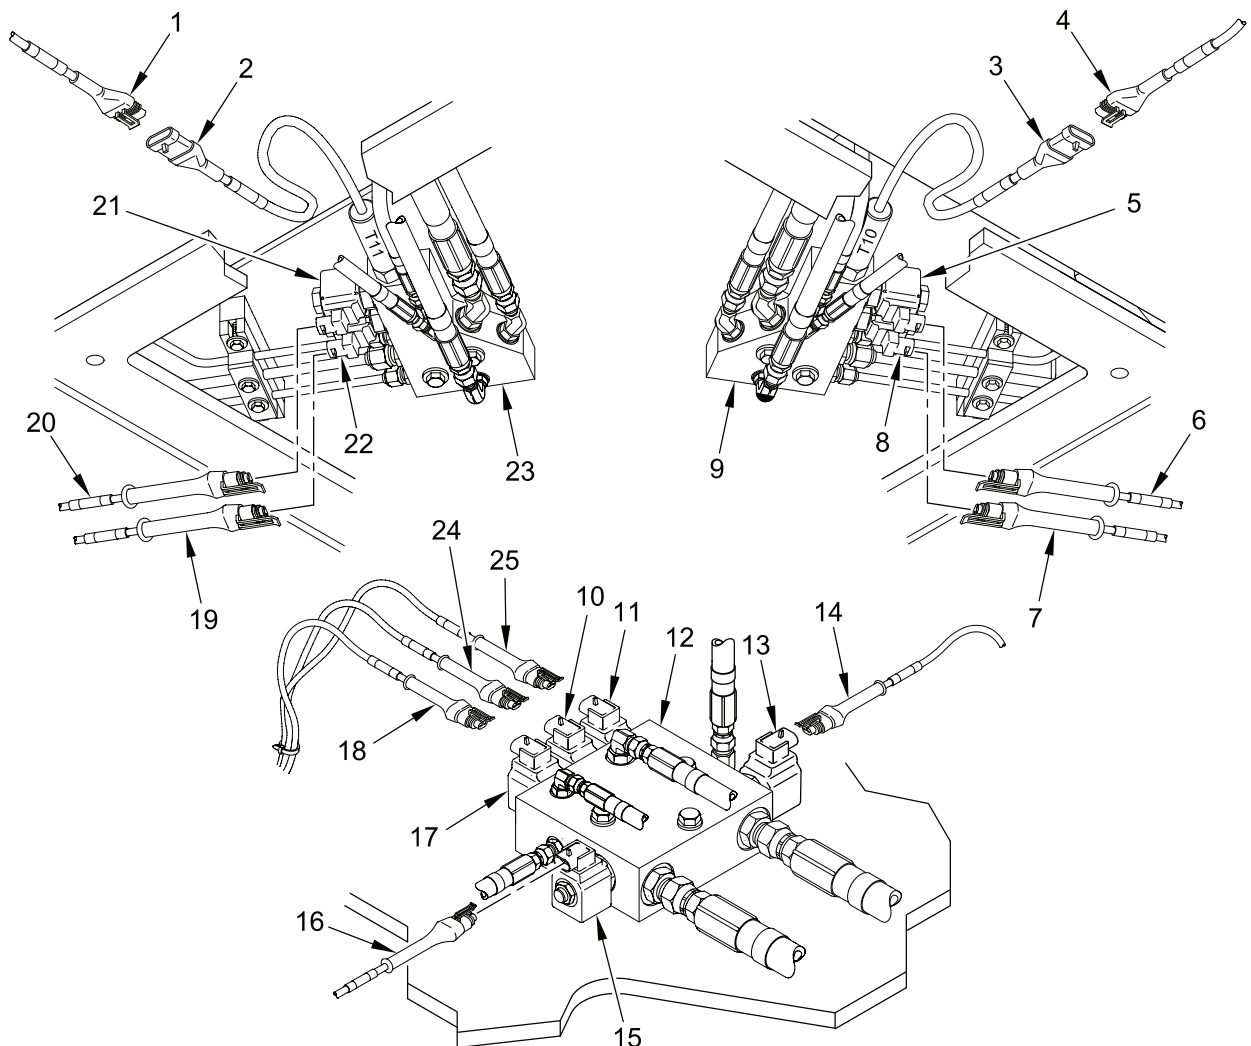

Figure 2. Accessing Wiring Harness W3 From Under Vehicle
4. From access under vehicle, remove the following W3 wiring harness connectors from the forward right manifold (Figure 2, item 23): connector P2 (Figure 2, item 20) from valve V2 (Figure 2, item 21), connector P10 (Figure 2, item 19) from valve V10 (Figure 2, item 22), and connector P11 (Figure 2, item 1) from transducer T11 (Figure 2, item 2).
5. From access under vehicle, remove the following W3 wiring harness connectors from the forward left manifold (Figure 2, item 9): connector P3 (Figure 2, item 7) from valve V3 (Figure 2, item 8), connector P9 (Figure 2, item 6) from valve V9 (Figure 2, item 5), and connector P30 (Figure 2, item 4) from transducer T10 (Figure 2, item 3).
6. From access under vehicle, remove the following W3 wiring harness connectors from the aft manifold (Figure 2, item 12): connector P4 (Figure 2, item 25) from valve V4 (Figure 2, item 11), connector P6 (Figure 2, item 14) from valve V6 (Figure 2, item 13), connector P7 (Figure 2, item 16) from valve P7 (Figure 2, item 15), connector P8 (Figure 2, item 18) from valve V8 (Figure 2, item 17), and connector P18 (Figure 2, item 24) from valve V18 (Figure 2, item 10).